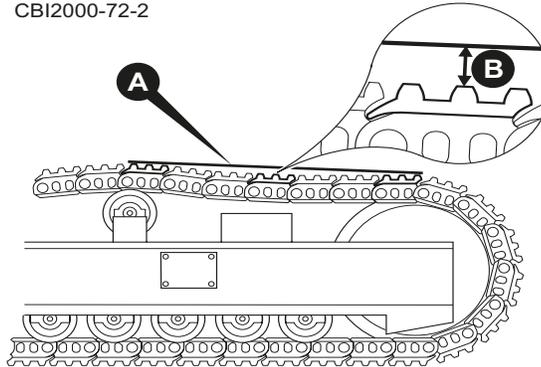

Figure 6.40 - Measure Track Sag
2. Create a Straight Line - Use a string or straight edge to create a straight line between the top of the track pads directly above the idler and the first upper roller (Figure 6.40 / A).
3. Measure Sag - Measure the distance between the straight line and the top of the track pad immediately between the idler and top roller (Figure 6.40 / B). This measurement should be between 3/16" and 5/8" (5mm and 15mm).
(14) Track Tension Adjustment